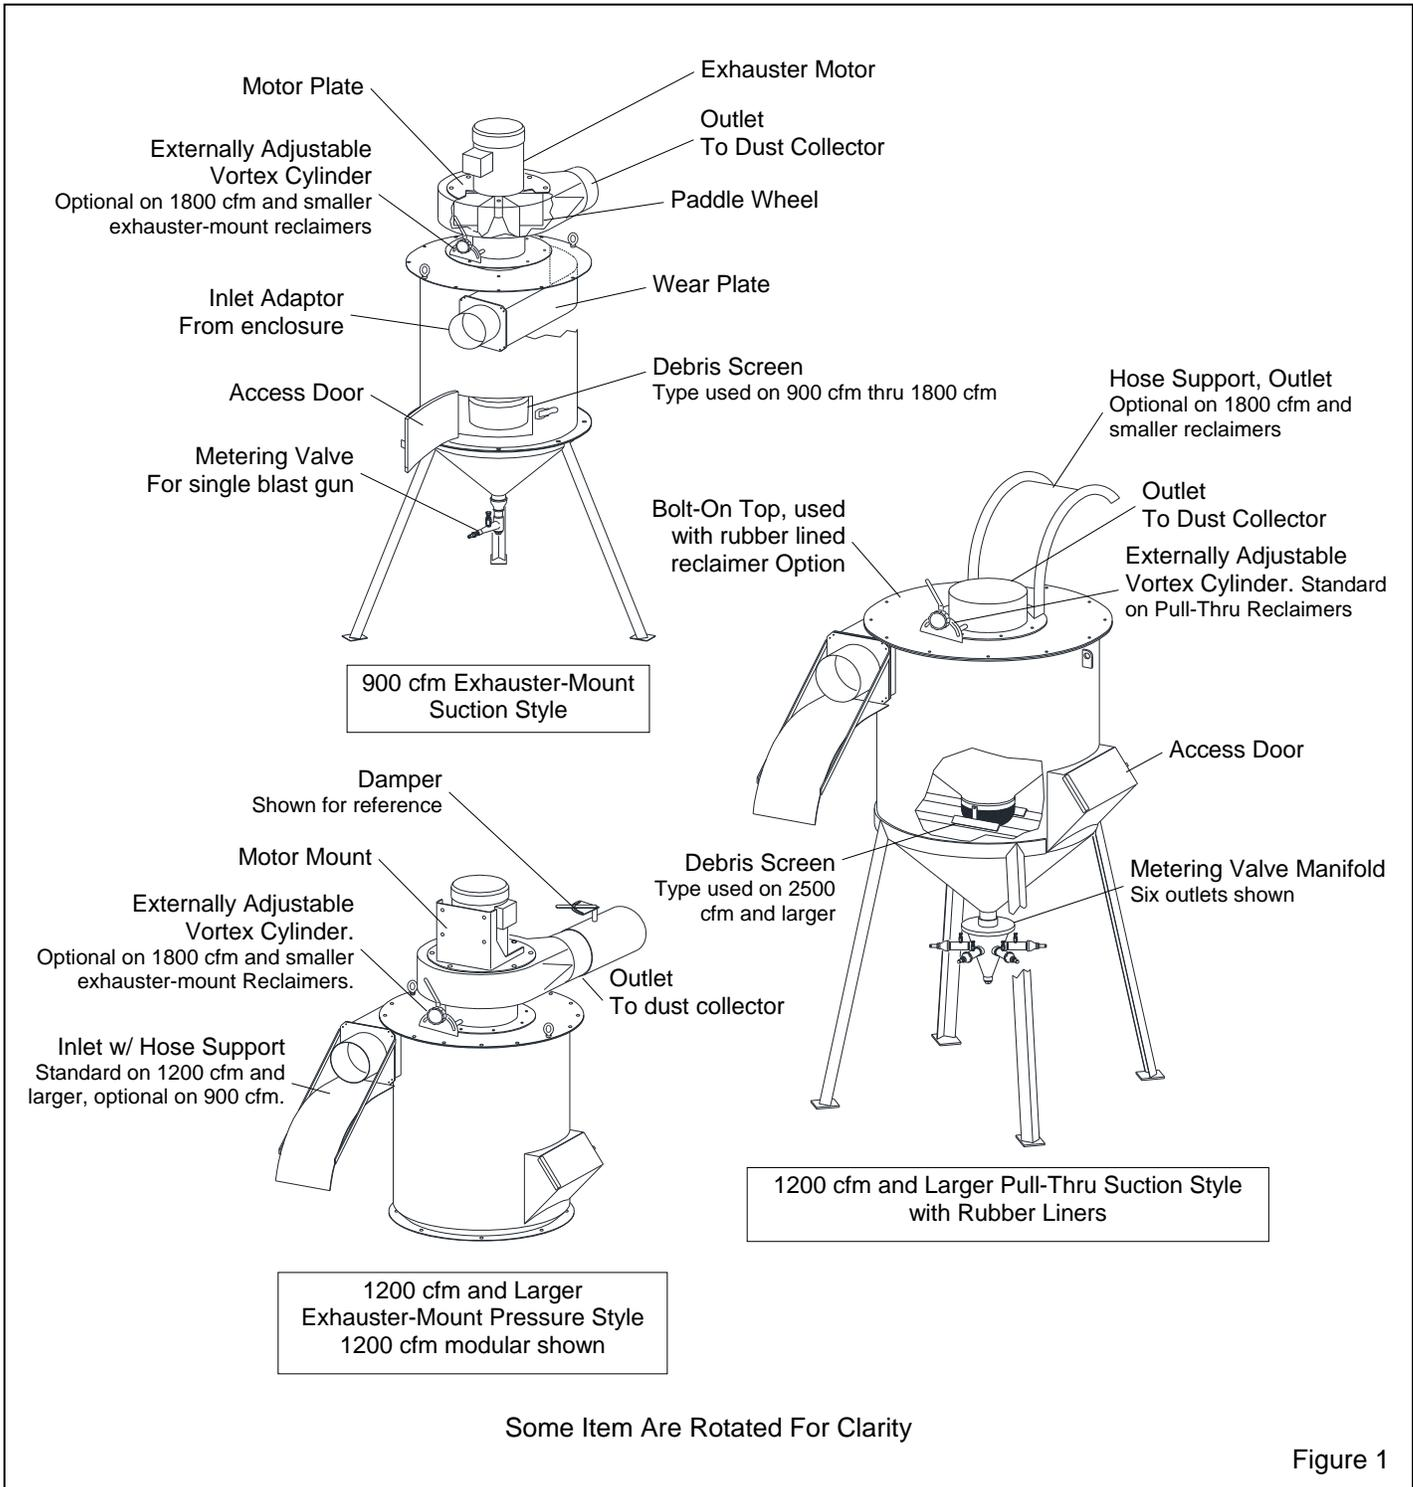

Figure 1
1.3.1 Reclaimers are divided into two primary categories: Push-thru and Pull-thru. Within those categories, the reclaimer is either a suction type or pressure type. Some of the smaller reclaimers are convertible. The operation of the reclaimer is the same for both types. Refer to Figure 1 for reclaimer type and components.
**1.5.1** A replaceable wear plate protects the reclaimer inlet area from rapid wear. The wear plate is standard on all non-rubber-lined reclaimers. See Figure 1.
**2.3.2** Connect the appropriately sized flexible conveying hose or ducting from the reclaimer outlet, to the dust collector inlet. Refer to Figure 1.